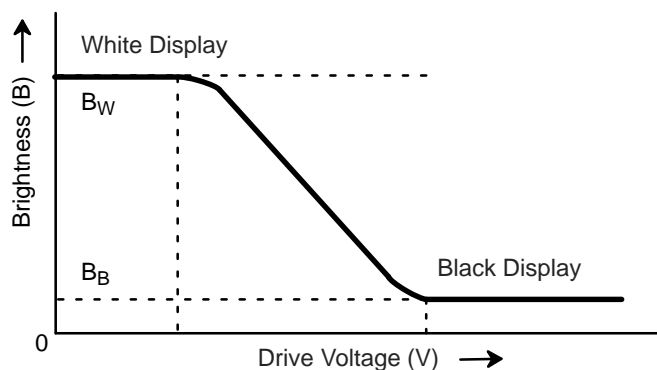

Figure 9-2. Voltage – Brightness Characteristics
Determine by formula (1) based on Figure 9-2 Voltage – Brightness Characteristics.